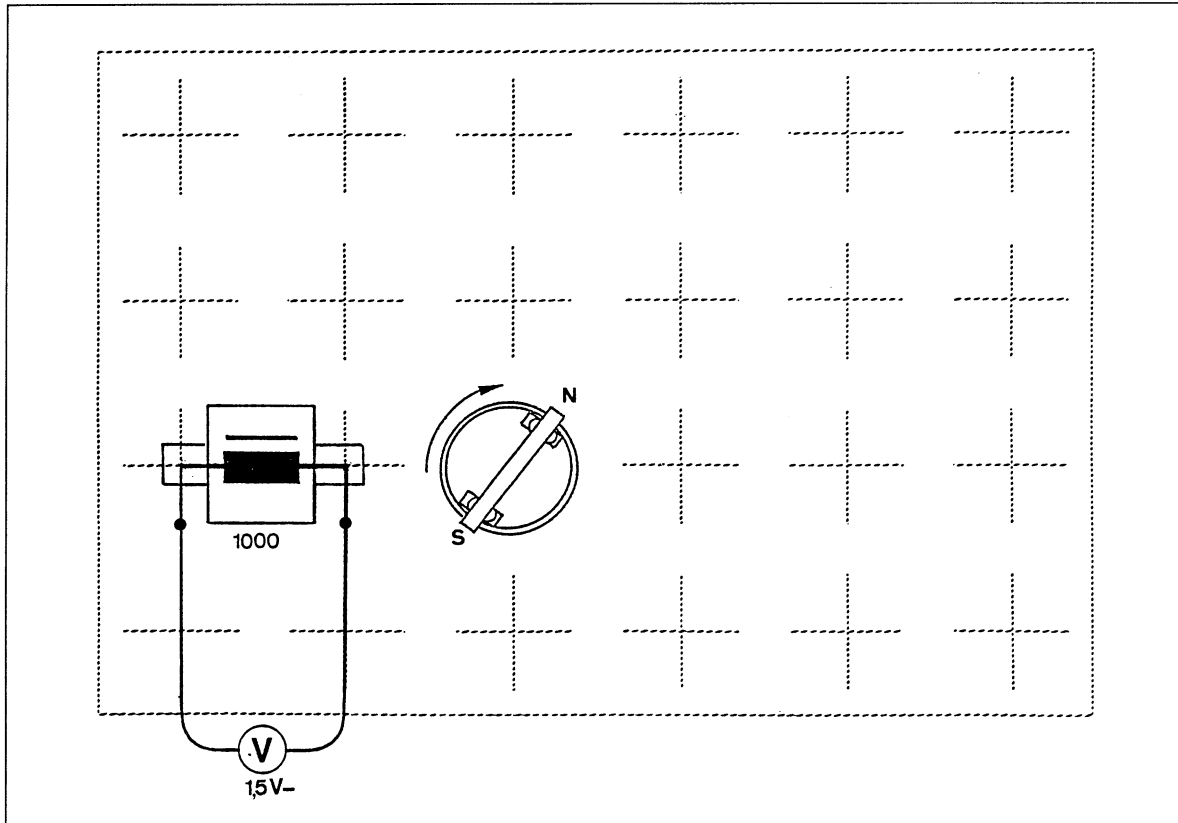

Fig. 1 Model of an AC generator
1. Place the magnet in the rotary support and assemble the circuit as shown in Fig. 1.